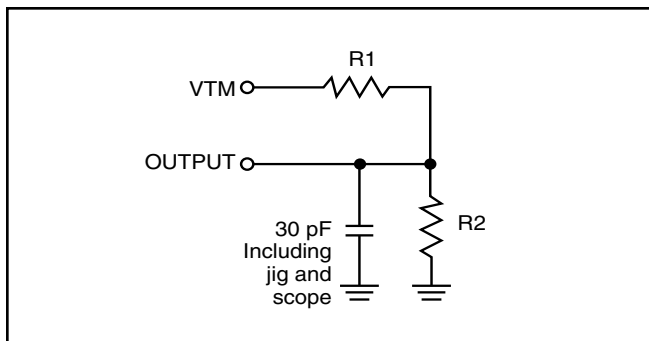

Figure 1
| Output Load                                 | See Figures 1 and 2           | See Figures 1 and 2           |
1. Test conditions and output loading conditions are specified in the AC Test Conditions and AC Test Loads (Figure 1).